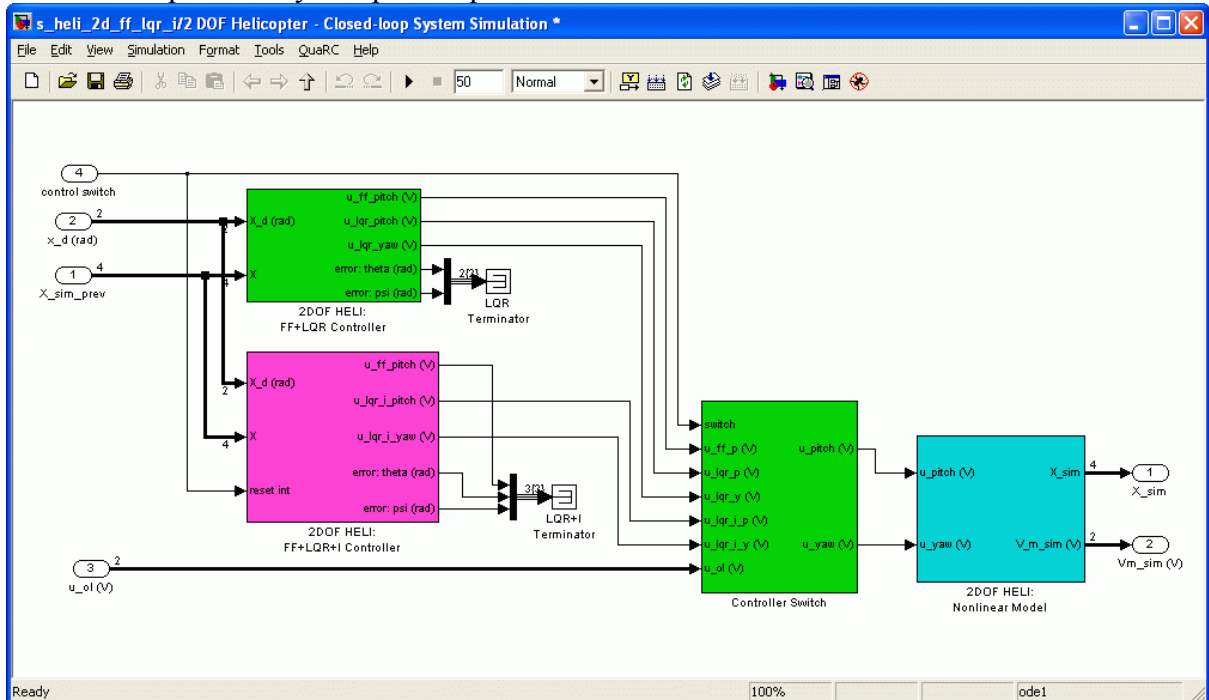

Figure 23: Closed-loop simulation of 2-DOF Helicopter.
4. The interior of the *2DOF Helicopter - Closed-loop System Simulation* subsystem is shown in Figure 23. The LQR and LQR+I control blocks along with the nonlinear model are all linked to the *2 DOF Helicopter Library* and are described in Section 7.1. The *Controller Switch* subsystem implements the logic to switch between the FF+LQR and FF+LQR+I controllers and between the pitch and yaw open-loop modes.